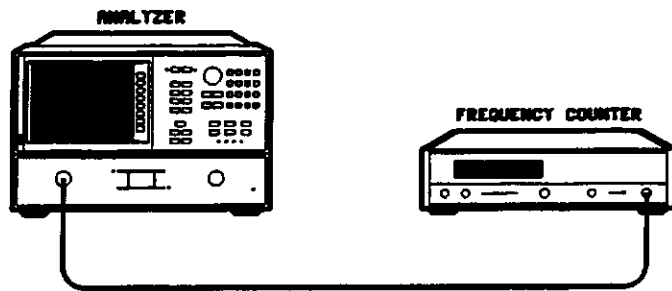

Figure 5-5. Source Pretune Correction Constants Setup
1. Move the A9 correction constant to the alter position (see *Adjustments* tab). Connect the equipment as shown in Figure 5-5 and then press **RECALL** **RECALL FAC PRESET** **SYSTEM** **SERVICE MENU** **TESTS** **ADJUSTMENT TESTS**. When the CRT displays "Pretune Adj", press **EXECUTE TEST**. Press **YES** at the query to alter the correction constants.
1. Connect port 1 of the analyzer to the frequency counter input (see Figure 5-5). Press **RECALL**